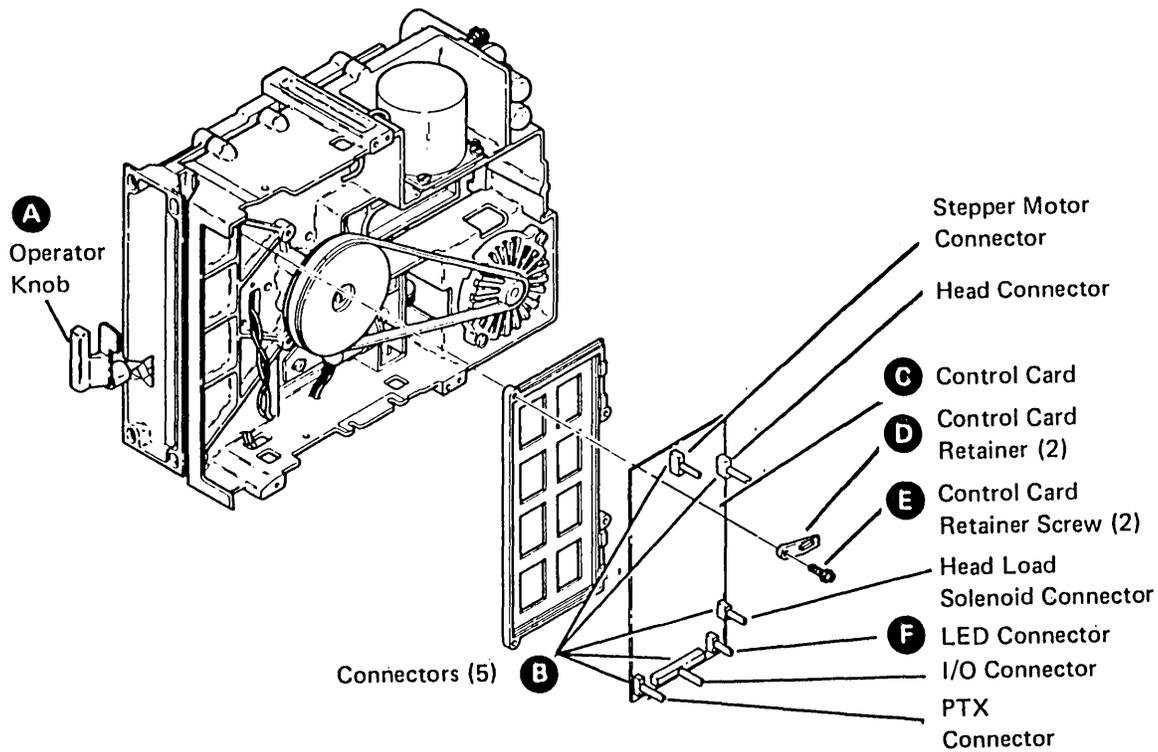

Figure F-40. Diskette Drive Control Card
F.3.7.1 Control Card Removal (Figure F-40)
F.3.7.2 Control Card Replacement (Figure F-40)